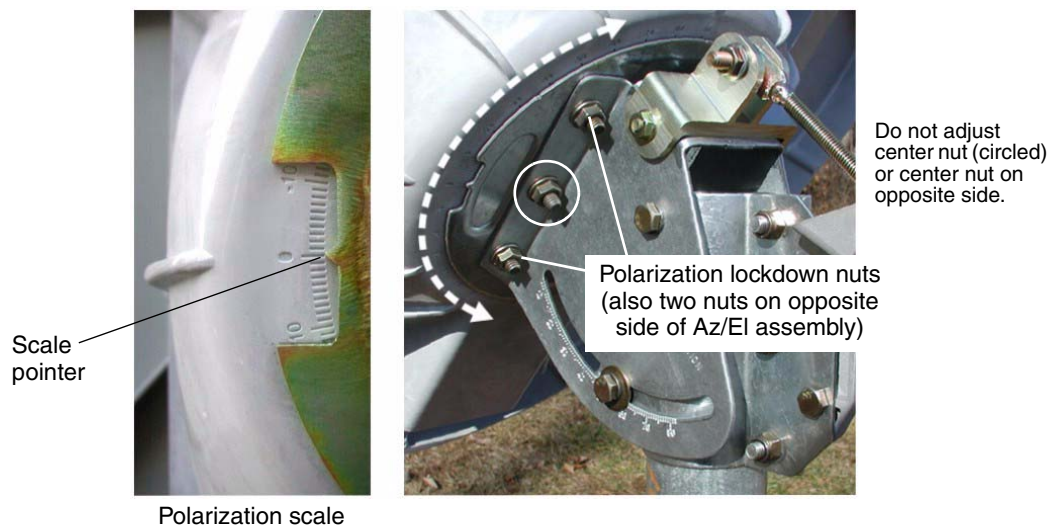

Figure 51: Polarization adjustment on the antenna
1. Loosen the four polarization lockdown nuts just enough so you can rotate the antenna reflector. See Figure 51. Do not adjust the center nut on each side, as noted in Figure 51.
2. Rotate the antenna to the desired polarization value as indicated by the polarization scale (shown in Figure 51).